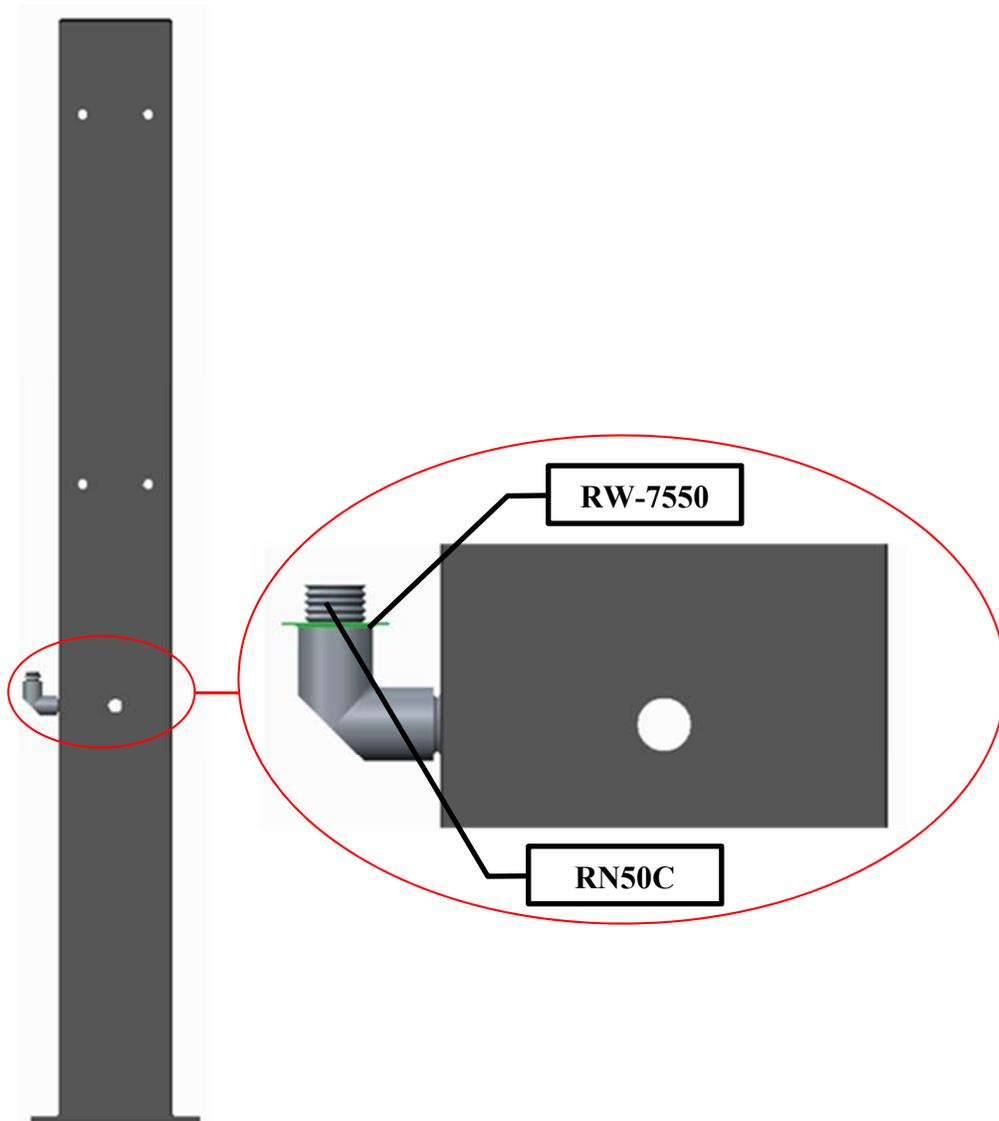

Figure 9: Installation of Reducing Washer
D. Install Reducing Washer RW-7550 onto ½” Conduit Nipple RN50C in the appropriate locations. See Figure 9.